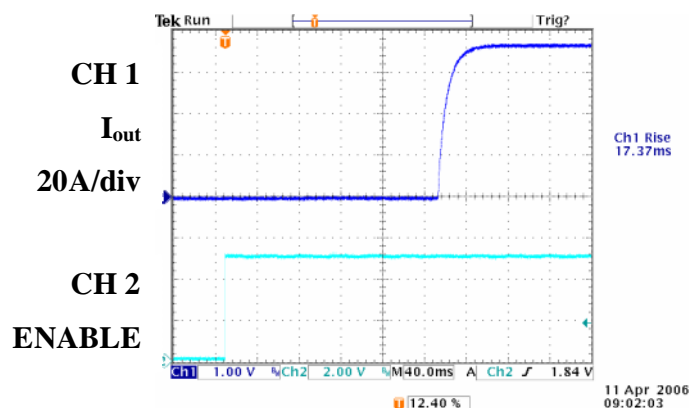

Figure 7: Response of  $I_{\text{out}}$  to ENABLE signal
**NOTE:** It is not possible to use **Enable**, Pin 1, for pulsing since the ENABLE circuit includes a "soft start" is intended for turning on the power supply output slowly (see figure 7). The **Enable** function controls several soft-start features which do not permit pulsing.